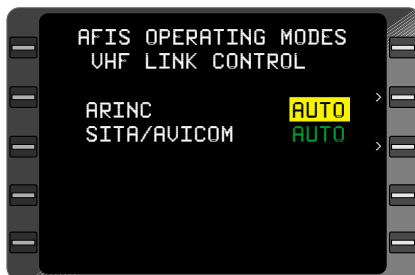

Figure 7-96
6. **ENT** Key - DEPRESS to turn VHF network on. **VHF LINK CONTROL** Page appears. (Figure 7-96)